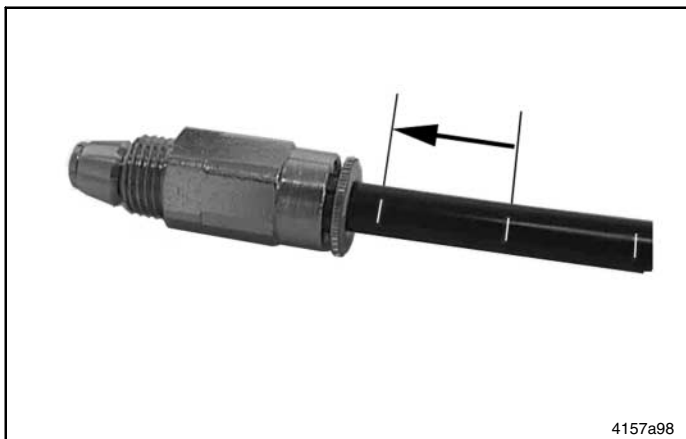

Fig. 9 Feedline insert into the fitting up to the next white mark
*Push the ends of the feedlines firmly into the Quicklinc fittings until they are fully seated in the body of the fitting. The primed feedlines are marked with white lines (fig. 9, 10) to facilitate installation.*